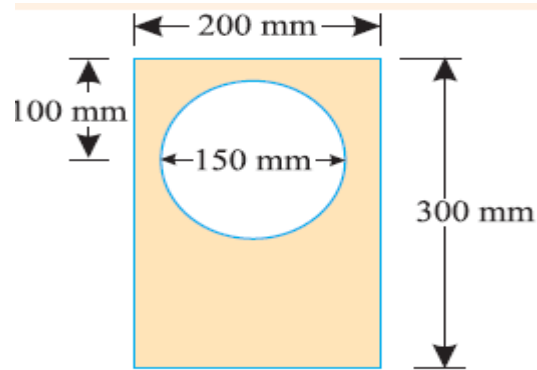

Fig.24
8. Find the moment of inertia of a hollow section shown in Fig.24 about an axis passing through its centre of gravity or parallel X-X axis.